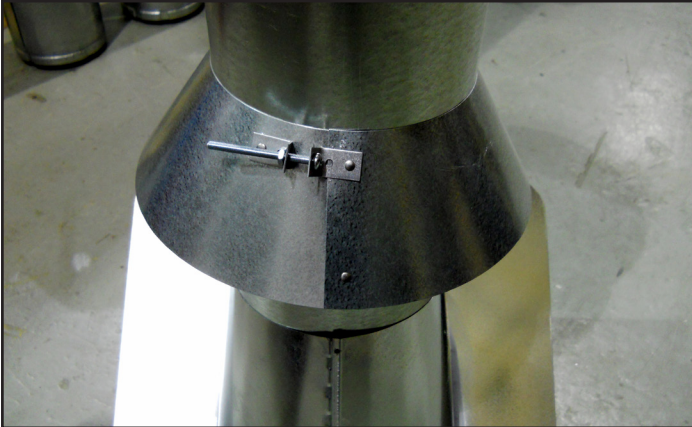

Figure 7.14 - Insert Bolt into Brackets
- Insert a bolt (provided) through the brackets and install nut. Do not completely tighten. See Figure 7.14.